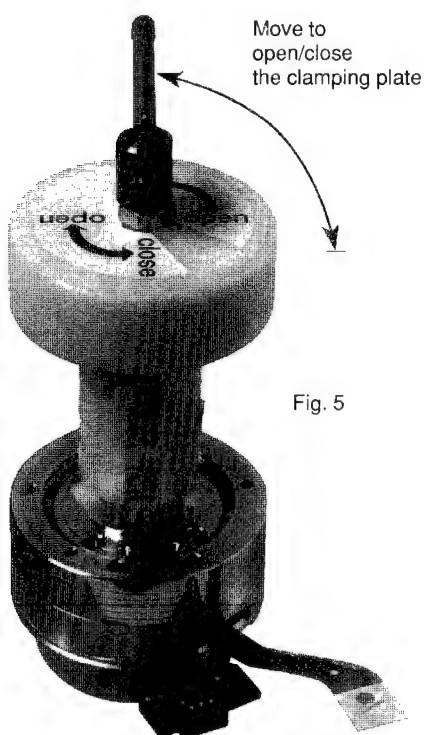

Fig. 5
- Position the tool on the upper clamping element, loosen the clamping element by turning the lever 90 degrees and remove it from the head disc. (Fig. 5)
- Position the tool planely on the head disc and fix the clamping element. (Fig. 5 "close")